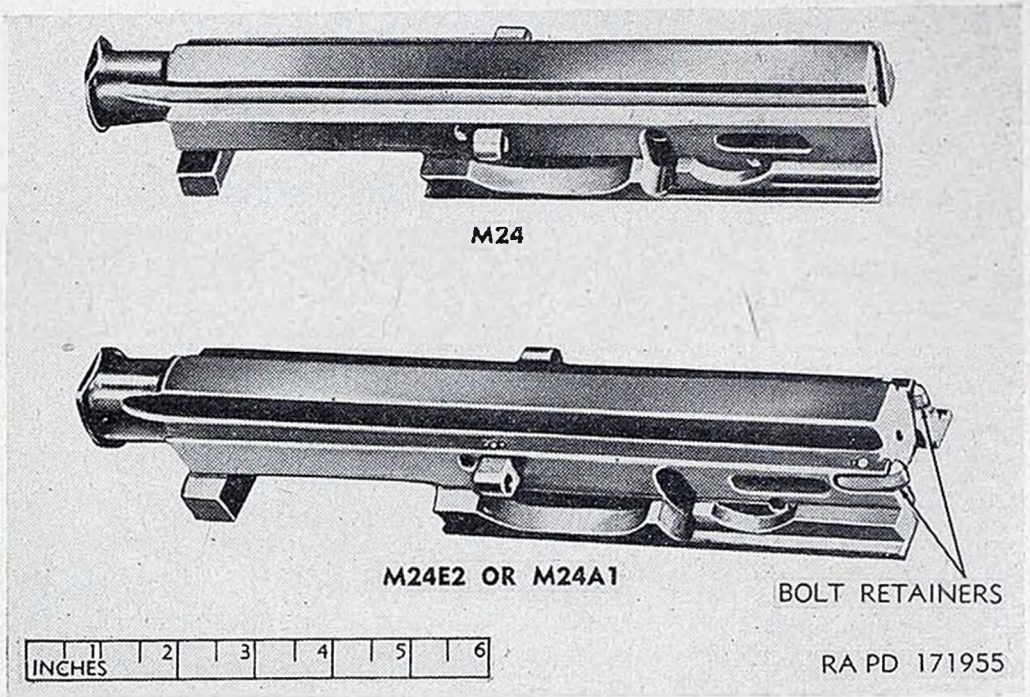

Figure 5. Comparison of bolt assemblies.
- (*a*) Bolt retainers (fig. 5) have been added for more positive holding of the round or case during extraction.